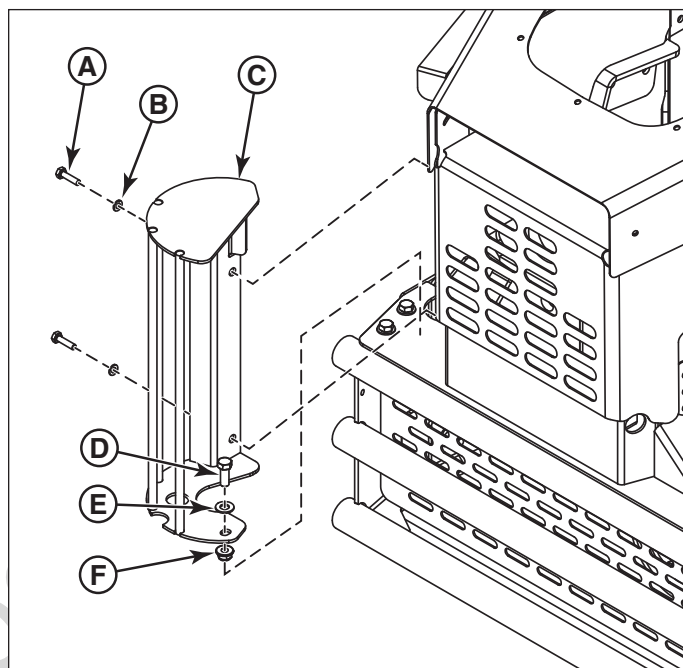

Figure 1. Removing the Muffler Shield
3. Remove the two (2) 1/4-20 X 1" bolts (A, Figure 1) and 1/4 SAE washers (B) from the muffler shield (C). Remove the 3/8-16 X 1" bolt (D), 3/8 SAE washer (E), and 3/8-16 hex nylock flange nut (F) that secures the muffler shield to the bumper. Remove the muffler shield from the machine. Discard the nut.
21. Re-install the muffler shield (**C, Figure 1**) using the two (2) 1/4-20 X 1" bolts (**A**) and 1/4 SAE washers (**B**) and the 3/8-16 X 1" bolt (**D**), 3/8 SAE washer (**E**), and new 3/8-16 hex nylock flange nut (**F**).